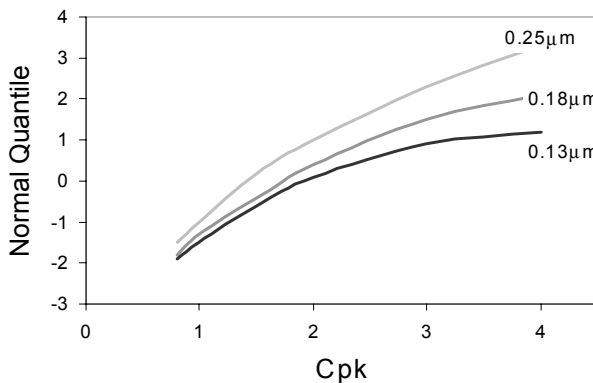
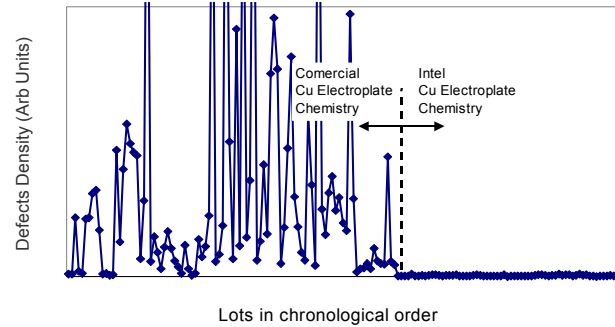

Figure 5. Process Capability Distributions for Intel Technologies at Start of High Volume Manufacturing Ramp
Figure 6. Impact of Intel Cu Plating Chemistry on Defect Density
In order to enable rapid ramp of the technology in numerous high volume manufacturing fabs, the process technology must be highly capable and stable. Fig. 5 shows the process capability distribution for in-line “key process monitors” that predict the performance, yield and/or reliability for the 0.25, 0.18 and 0.13 $\mu$ m logic technology generations at Intel (at two year offsets). With each successive generation process capability, stability and excursion resistance at the start of high volume ramp have improved. Fig. 6 shows how Intel develops proprietary chemistries, such as Cu plating chemistries, to enhance yield and manufacturability. Design for manufacturing (DFM) techniques are utilized, which make extensive use of error analysis in setting process targets (3). Finally, extensive excursion protection, statistical process control (SPC) capability has been designed into the shop floor control system, which enables early detection of process